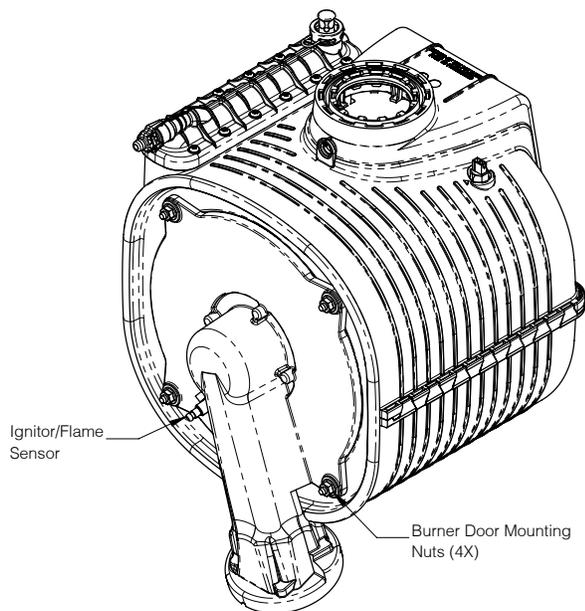

Figure 18-1: Ignitor/Flame Sensor Location
- E. Use a 10 mm wrench to remove four nuts securing burner door to heat exchanger (Figure 18-1). Carefully remove door/blower, being careful not to damage the refractory insulation on inside of door (see Refractory warning) or ignitor/flame sensor.